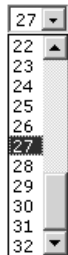

Figure 96. Output Selection Drop Box
1. Click the **Output** drop box. A drop down scroll box appears (see figure 96).